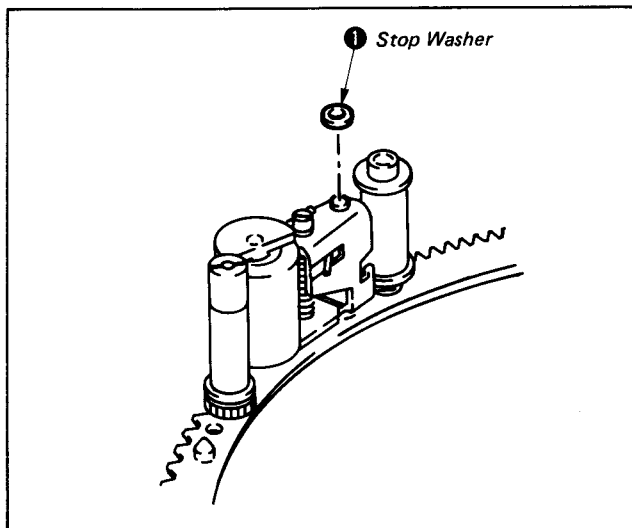

Fig. 1-17
- 2) Remove the stop washer ①. (See Fig. 1-17.)